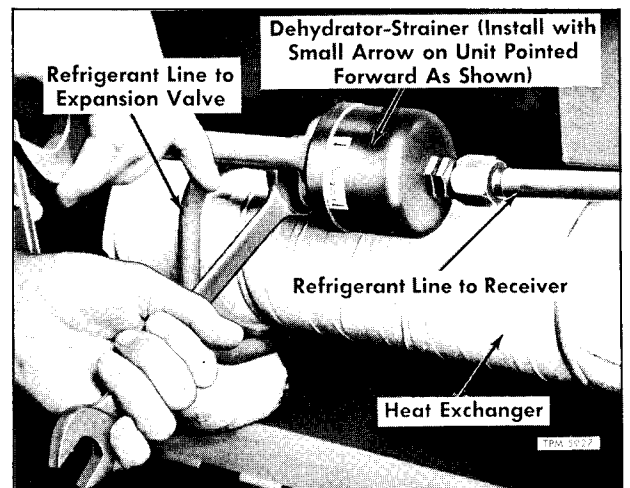

Figure 128—Replacing Dehydrator-Strainer
2. Referring to figure 128, remove old unit in manner shown. **CAUTION:** Do not twist refrigerant lines; use two wrenches as shown.